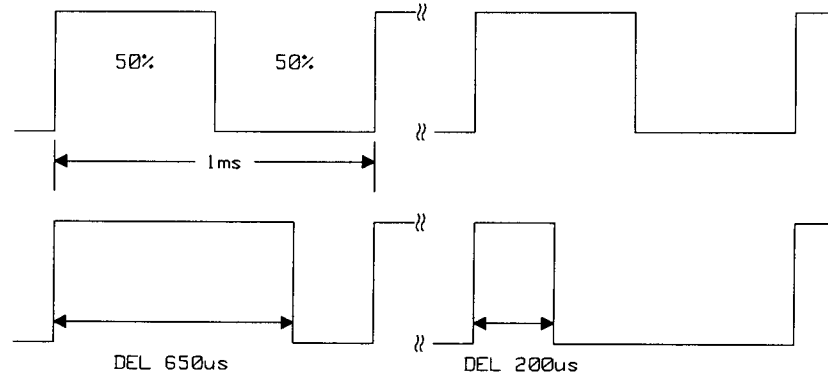

Figure 10.3-11. Delay Generator I/P O/P waveforms
2. Check the input signal from the period generator pin 7 of U220 against Figure 10.3-11.
4. Check the signal being sent to the width generator IC240 against Figure 10.3-11.